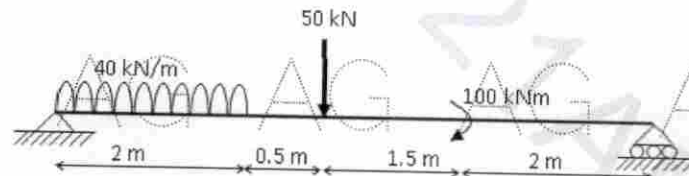

Figure: 1
3. A simply supported beam subjected to the loading as shown in Figure 1. Draw the shear force and bending moment diagrams. [15]